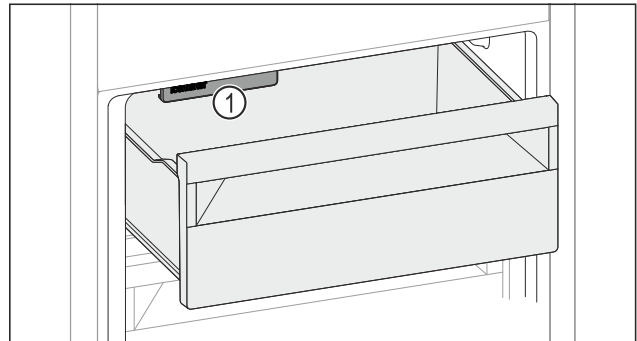

Fig. 177
- Pay attention to the IceMaker Fig. 177 (I).